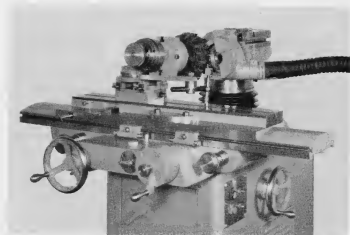

Figure 92A
7. *Sharpen cutters WET.* Wet grinding is preferred when sharpening with diamond wheels, CIMCOOL®, a product of the Cincinnati Milling Products Division, is recommended as a cutting fluid. Strong alkaline solutions should be avoided, since they are injurious to Bakelite bonding. The wick-and-oil cup method of moistening the face of the wheel is still largely used. A more efficient method is offered by some commercial manufacturers of mist attachments, similar to the one shown in Figure 92A.